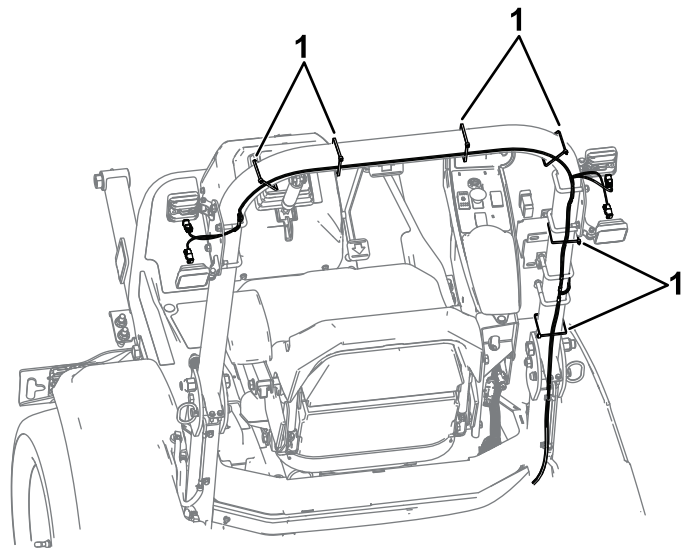

Figure 4
1. Route the wire harness and loosely secure it to the roll bar with cable ties as shown in Figure 4.